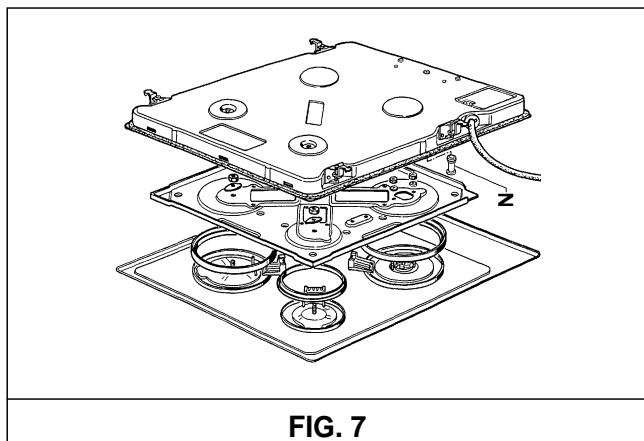

FIG. 7
a) Remove the hotplate from the top of the cabinet, overturn it, unscrew screw "Z" and remove under part (see fig. 7).
For access to the various parts, remove the hotplate from the top of the cabinet. Then overturn it, unscrew screw "Z" and remove under part. (see fig. 7).